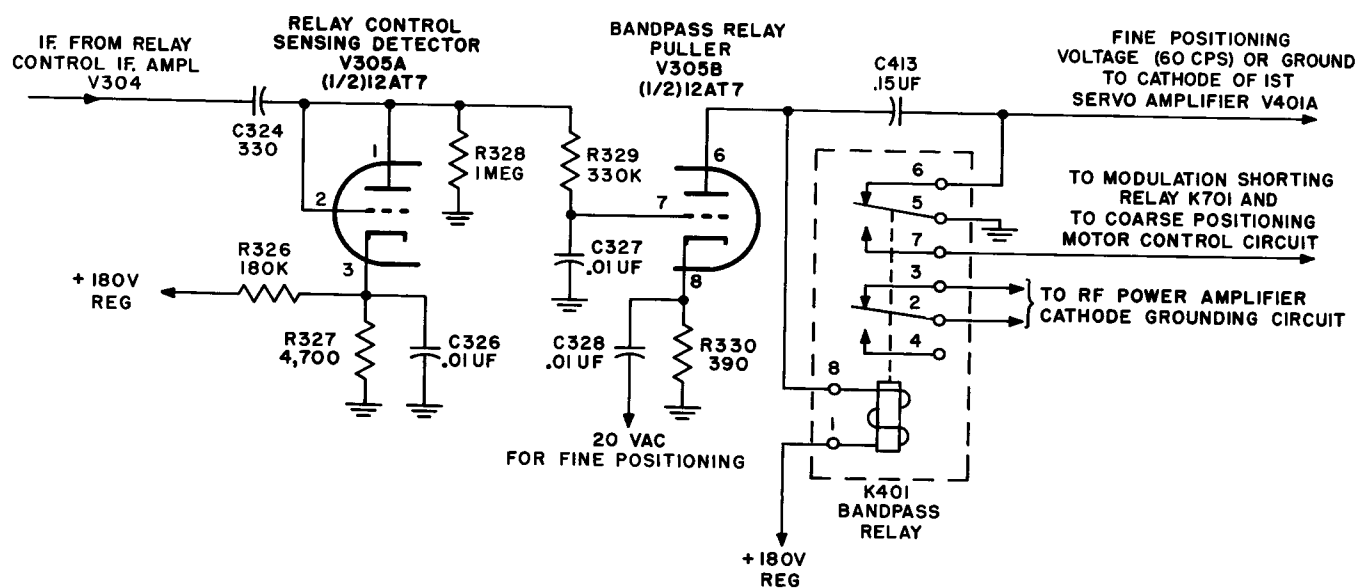

Figure 62. Relay control sensing detector, relay puller and bandpass relay, simplified schematic diagram.
93. Relay Control Sensing Detector (fig. 62)
94. Bandpass Relay Puller V305B and Bandpass Relay K401 (fig. 62)